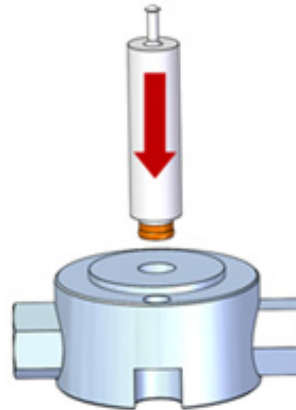

Figure 6-14 Replacing the seal
13. Place a replacement seal on the rod-shaped end of the seal insertion/removal tool so that the spring (energizer) is visible when the seal is fully seated on the tool. Insert the tool into the pump head (Figure 6-14).